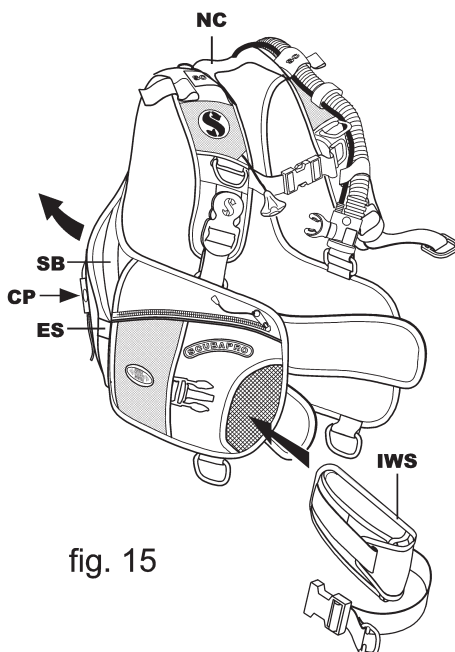

fig. 15
- Lifting capacity.** The new bag has the back position semiexpandable (fig. 15 - SB) to get more lifting capacity, and retractable, by means of two elastic straps (fig. 15 - ES) and, being positioned between bottle and back of the diver, in normal use, it does not create any extra drag.
- b) The integrated weight system (paragr. 4 – fig. 5) (fig. 15 – IWS).
- c) Soft neck (fig. 15 - NC).